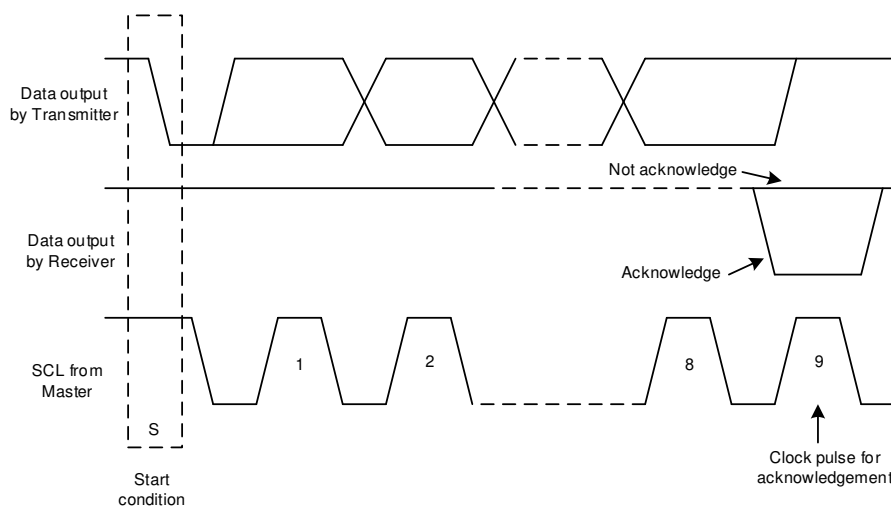
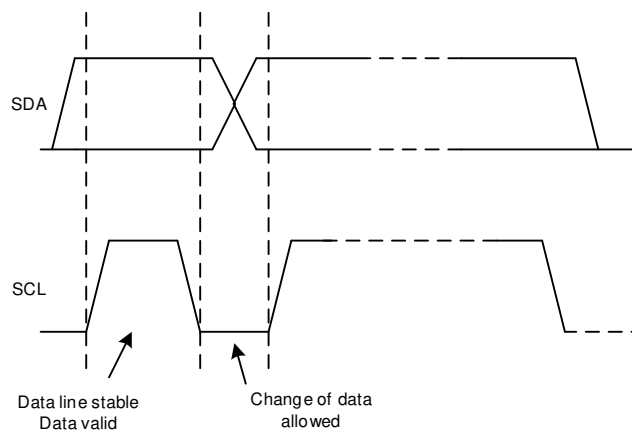

图 59. Acknowledge and Not Acknowledge on the I2C Bus
图 61. Bit Transfer on the I2C Bus
Other than specific timing signals, the I2C interface works with serial bytes. At the end of each byte, a ninth clock cycle generates and detects an acknowledge signal. Acknowledge is when the SDA line is pulled low during the high period of the ninth clock cycle. A not-acknowledge is when the SDA line is left high during the high period of the ninth clock cycle as shown in 图 59.
2. The master then generates the SCL pulses, and transmits the 7-bit address and the read/write direction bit (R/W) on the SDA line. During all transmissions, the master makes sure that data are valid. A valid data condition requires the SDA line to be stable during the entire high period of the clock pulse, as shown in 图 61. All devices recognize the address sent by the master and compare it to their internal fixed addresses. Only the slave device with a matching address generates an acknowledge by pulling the SDA line low during the entire high period of the ninth SCL cycle, as shown in 图 59 by pulling the SDA line low during the entire high period of the ninth SCL cycle. Upon detecting this acknowledge, the master knows the communication link with a slave has been established.